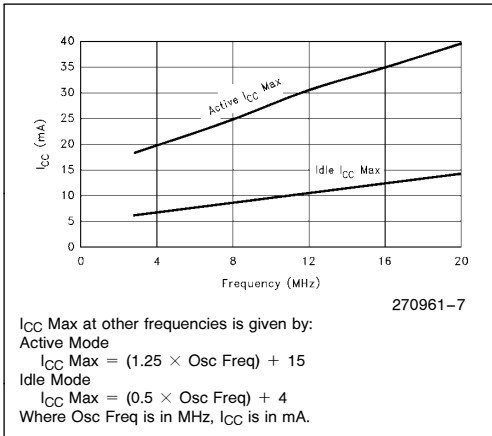

Figure 6. I_{CC} vs Frequency
| I_{CC} | Power Supply Current: Running at 16/20 MHz (Figure 6) Idle Mode at 16/20 MHz (Figure 6) Power Down Mode | | $26/28$ | $35/40$ | mA | (Note 3) |
3. See Figures 6–9 for test conditions. Minimum V_{CC} for Power Down is 2V.